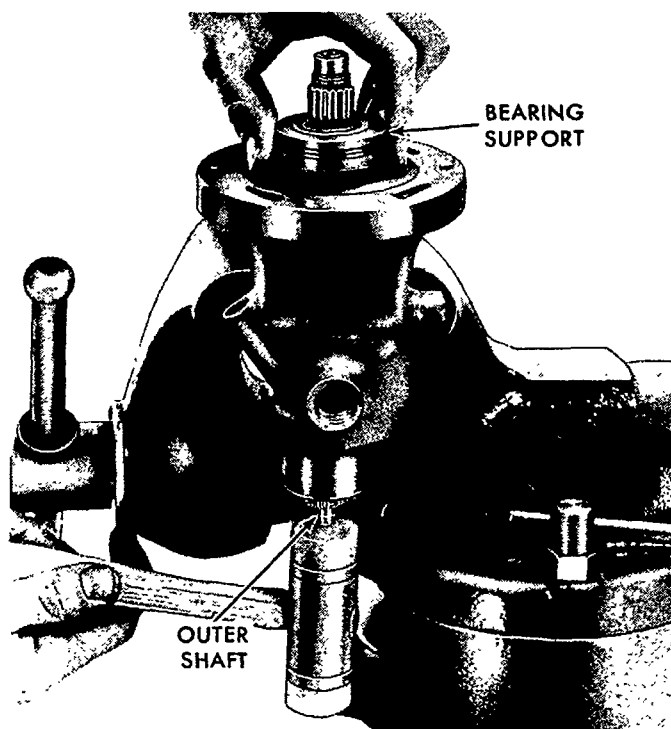

Figure 94
12. Remove the bearing support, Figure 94, by tapping the end of the outer shaft with a soft mallet until the bearing support slips out of the valve body.